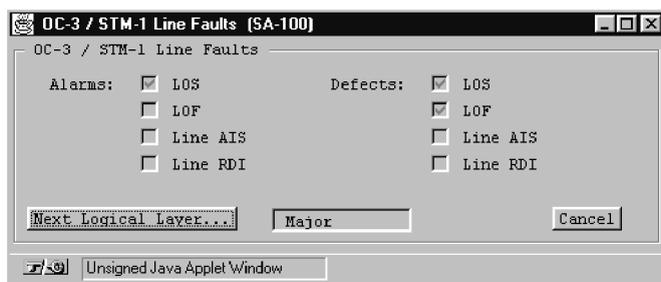

Figure 6-34. OC-3/STM-1 Line Faults Window
1. Choose the Line Faults button. The OC-3c/STM-1 Line Faults window appears (see Figure 6-34), displaying any faults detected on the OC-3c/STM-1 line.